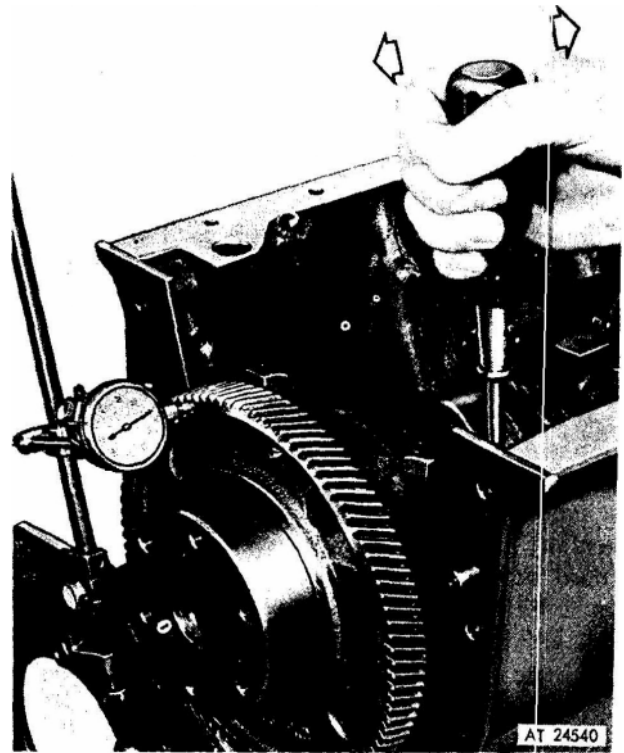

Figure 11. Checking crankshaft end play.
5. Check the crankshaft end play by moving the crankshaft toward the gage as shown in figure 11. Keep a constant pressure on the tool and set the dial indicator to zero. Then, remove and insert the screw driver on the other side of the bearing cap. Force the screw driver in the opposite direction and note the amount of end play on the dial. The clearance should be .004" to .011" with new parts or a maximum of .018" with used parts. Insufficient clearance can be the result of a misaligned rear main bearing or a burr or dirt on the inner face of one or more of the thrust washers. If the rear bearing is misaligned it may be loosened and retightened as described in Item 4.